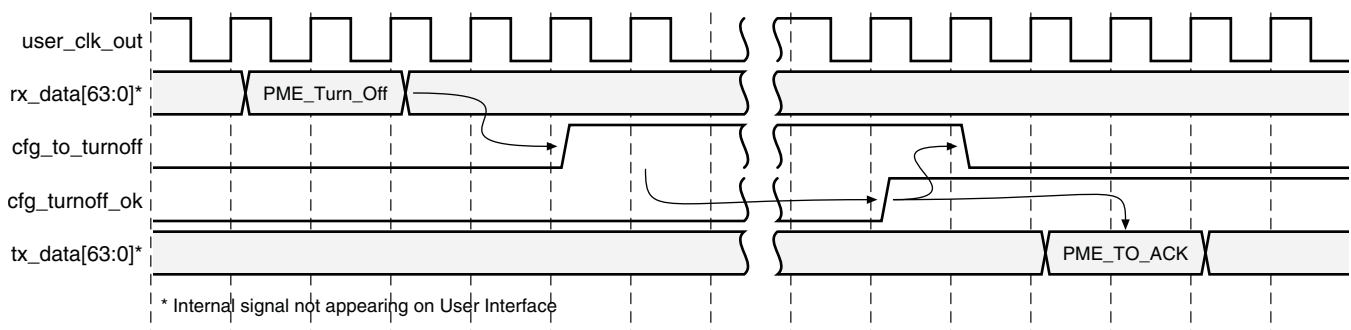

Figure 3-67: Power Management Handshaking: 64-Bit
4. The core sends a PME\_TO\_Ack when it detects assertion of `cfg_turnoff_ok`, as displayed in Figure 3-67 (64-bit).